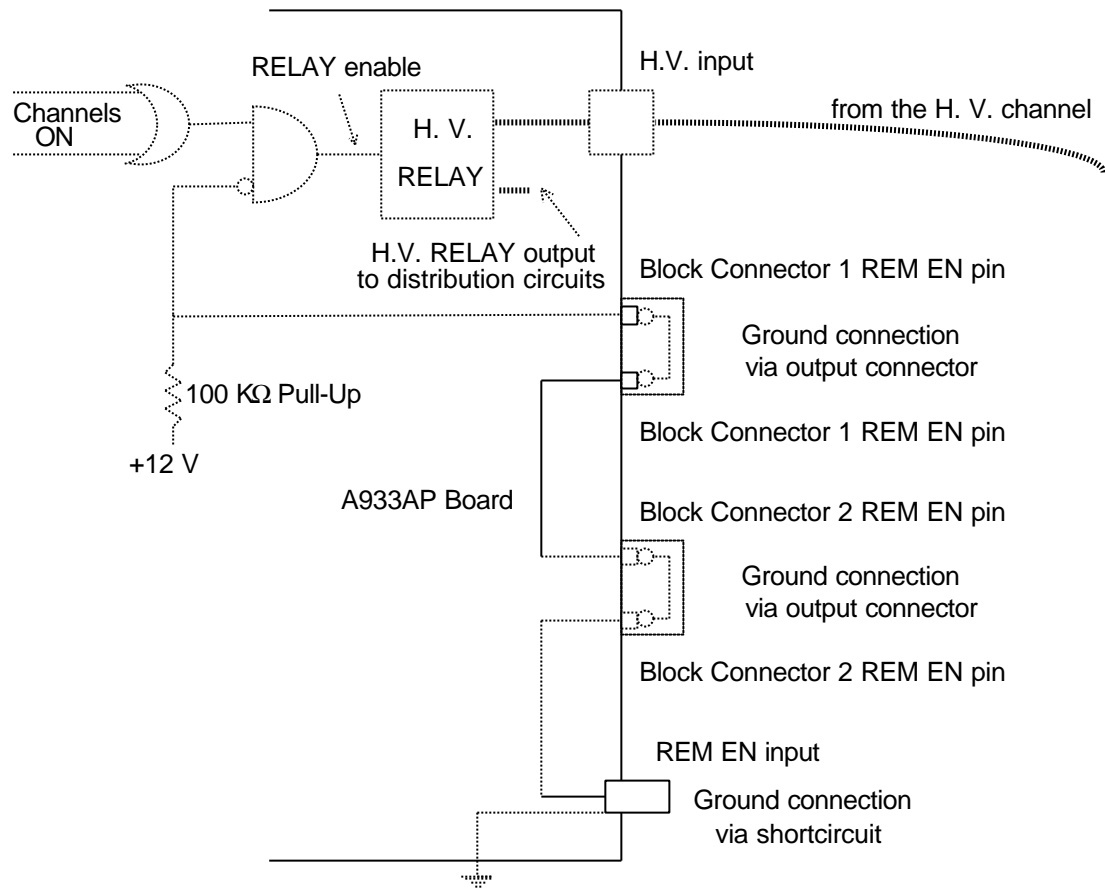

Fig. 2.7: Mod. A933A With Relay Remote Enable Scheme
The Board can be optionally provided with a High Voltage electronic Relay. This relay is enabled with a protection scheme different from the above mentioned. The relay is active (i.e. the H. V. can reach the distribution circuits) with the occurrence of ALL of the following conditions (see Fig. 2.7):
N.B.: With the relay option, if ALL channels of the distributor are set to OFF, the input High Voltage is NOT supplied to the distributor circuits (no H. V. output on the Multipin Connectors). The first channel of the A933A set to ON switches the Relay ON: the High Voltage Relay Output (see fig. 2.7) ramps up to the input voltage at approx. 250 V/s and the multipin connector will supply the programmed H. V. value on the channels ON and the input H. V. value minus the max. drop on the channels OFF (see § 2.2.3).
N. B.: With the Relay option, when the Remote Enable connections are in place according to Fig. 2.7, in order to be sure that there is no H. V. present on the Multipin connectors, ALL channels must be set to OFF. If at least one channel is set to on, ALL channels of the board will supply High Voltage on the multipin connector.